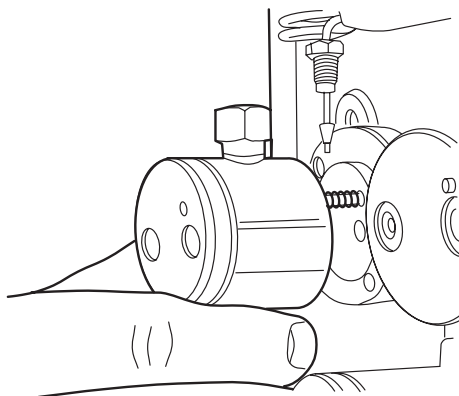

Figure 4-6 Pump Head Removal
8. Remove the pump head assembly mounting bolts with a 5/32-inch Allen wrench. Loosen the screws 1/2-turn at a time for the first two turns. Slide the pump head assembly off the pump (Figure 4-6).